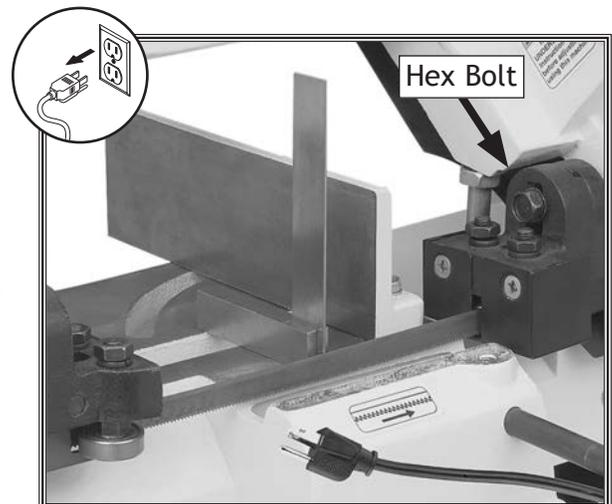

Figure 47. Squaring the blade.
3. Place a square on the table bed and against the edge of the blade (**Figure 47**), and check different points along the length of the table between the blade guides.
4. Loosen the hex bolt shown in **Figure 47**, and rotate the seat until the blade is vertical to the bed, then re-tighten the hex bolt.